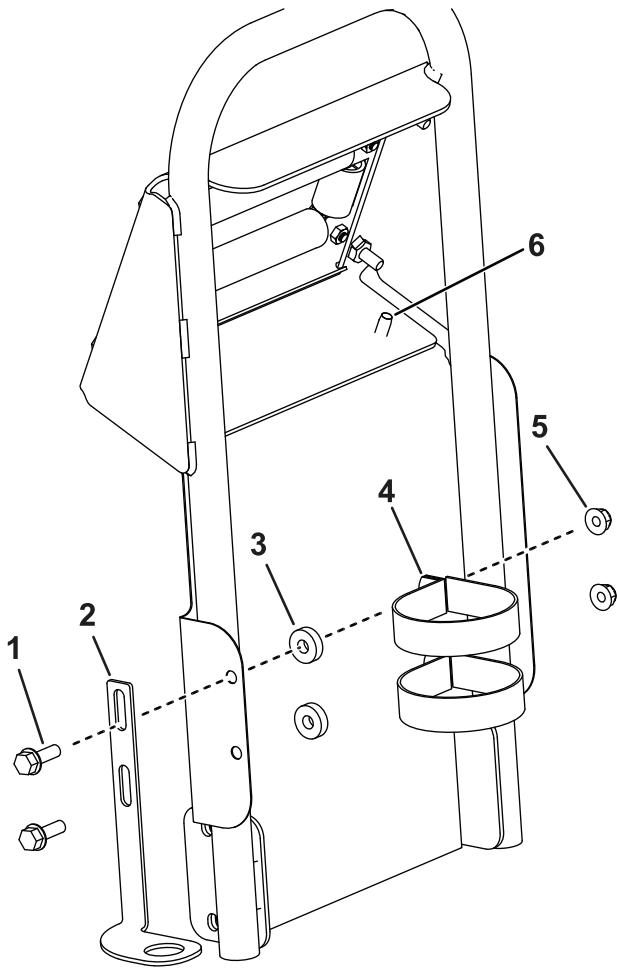

Figure 12
- 7. Secure the top of the mud shield to the handle using 2 self-tapping screws (Figure 12).
- 8. Attach the spray gun holder to the mud shield as shown in Figure 12.